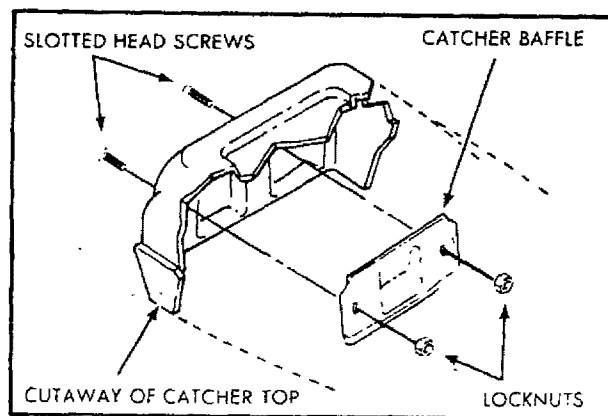

FIG. 9
8. Position baffle inside of catcher top as shown in (Fig. 9). Put two (2) #10-24 truss head screws into holes with two (2) #10-24 locknuts. Use a flat blade screwdriver to drive screws while holding the locknuts with adjustable or 3/8" wrench.